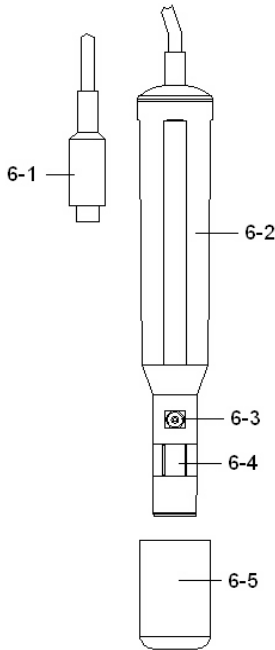

Fig. 4
- 1) Prepare the Oxygen Probe (optional, DOPB-11), install the " Probe Plug " (6-1, Fig. 4) into the " DO Socket " (3-13, Fig. 1).
- 1) Install the " Probe Plug " (6-1, Fig. 4) into the " DO Socket " (3-13, Fig. 1).
5) When not use the probe, should insert the " Probe head " into the " Probe protection cover " (6-5, Fig. 4)